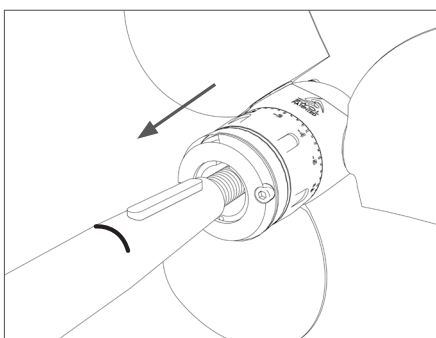

FIG. 13 | Engaging the propeller on the shaft with the key
- Engage the complete propeller set onto the propeller shaft (**Fig. 13**) and hold it in place before fixing.